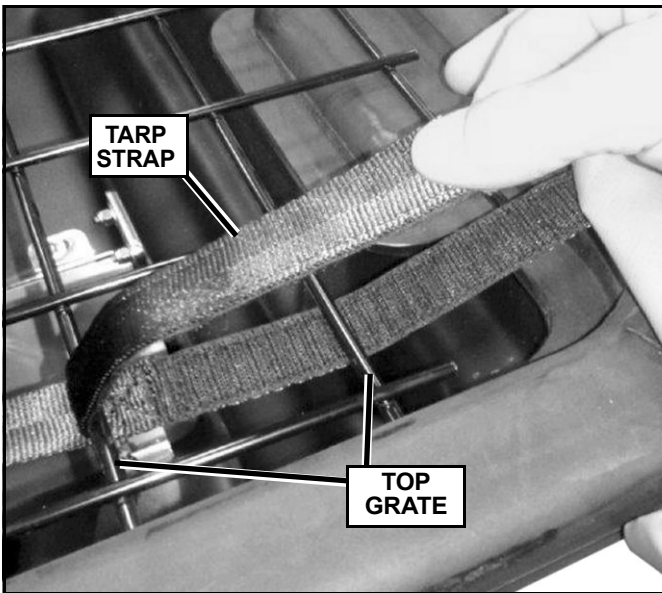

Figure 6
5. There are two retention straps attached under the front edge of the tarp at the front end of the hopper. Loop each strap underneath two bars of the top grate, and route the free end up over the grate. (See Figure 6.)